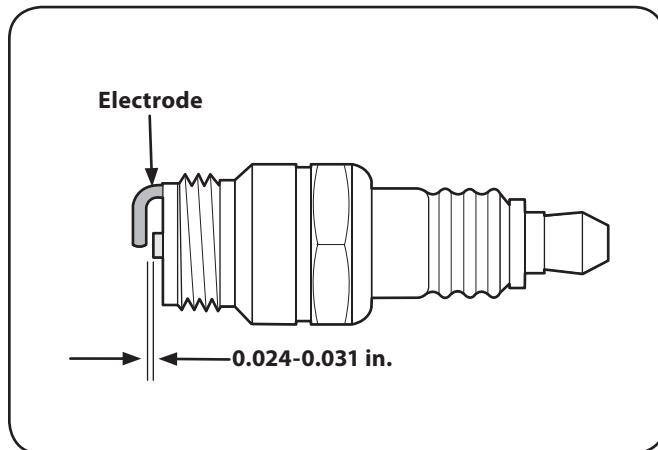

Figure 6-10
3. Measure the plug gap with a feeler gauge. Correct as necessary by bending electrode. See Figure 6-10. The gap should be set to 0.024-0.031 in.